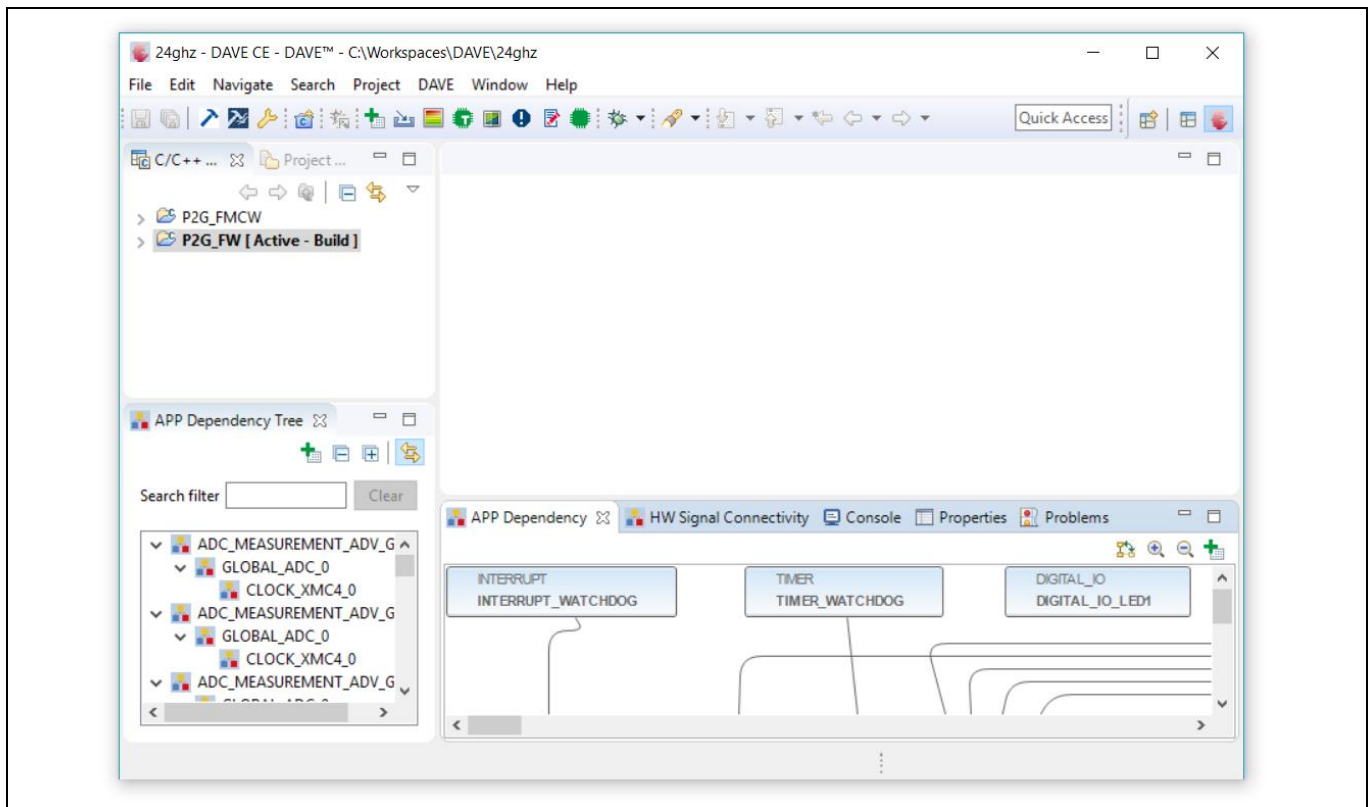

Figure 26 DAVE™ editor view
- The project file should appear under the **Project List**. Click on the **Finish** button. A screen similar to Figure 26 should appear.